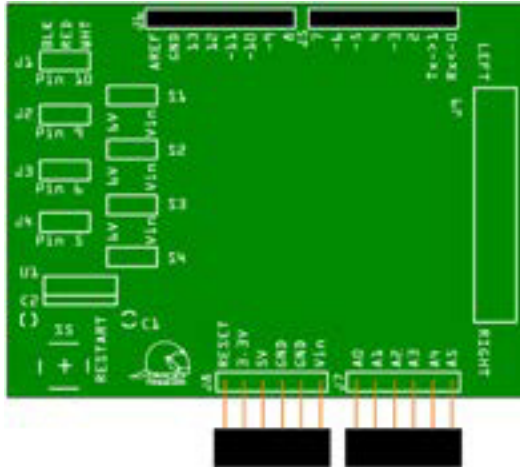

Figure HT3-5. Location to insert 6-pin stacking headers
3. In a similar manner, insert and solder the two 6-pin stacking headers into the positions marked J7 and J8, as shown in Figure HT3-5.